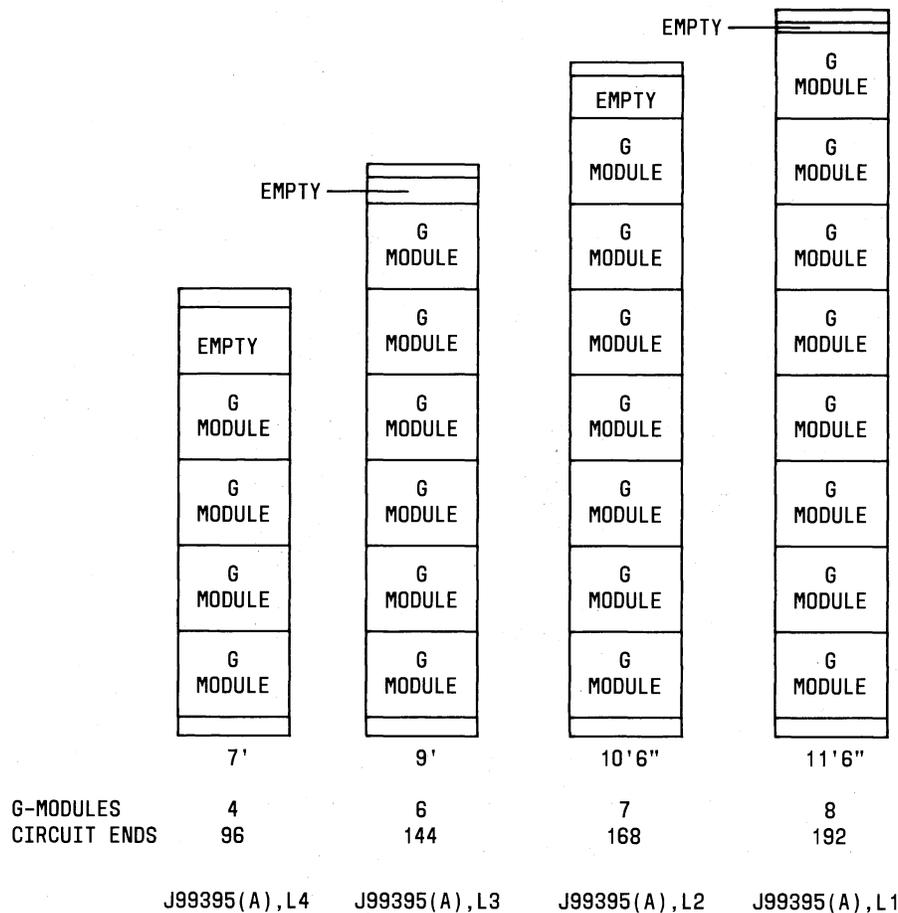

Fig. 3—G-Signaling Standalone Frame Configurations
2.04 The G-standalone frames use standard 23-inch relay racks in four heights. The standalone frame does not have an option for the Switched Maintenance Access System (SMAS), but an external connection to SMAS via the distributing frame is available. Figure 3 shows the different frame heights, maximum number of SF units, and J-codes. The standalone frame can be used with any 4-wire transmission facility via distributing frame cross-connection. Further information concerning the standalone frame is located in Section 801-644-150.